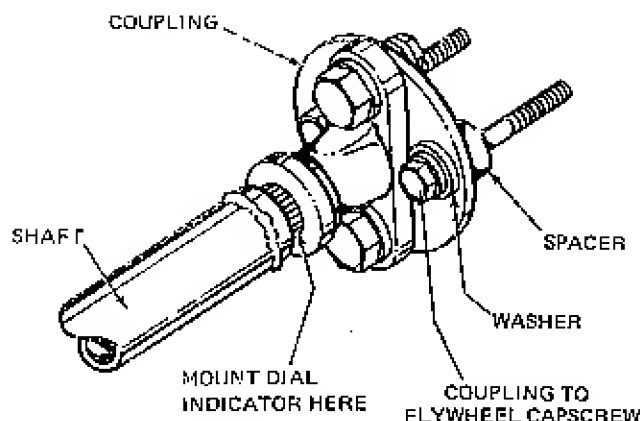

Figure 16. Rear PTO Coupling Installation
7. Loosely attach coupling (Figure 16) to flywheel through upper input pulley with two 3/8 16 x 3 1/2 inch capscrews, washers, and spacers. Apply Loctite to capscrews before installation.
8. Using a dial indicator, check shaft (Figure 16) for runout of no more than 0.025 of an inch at location indicated in Figure 16.